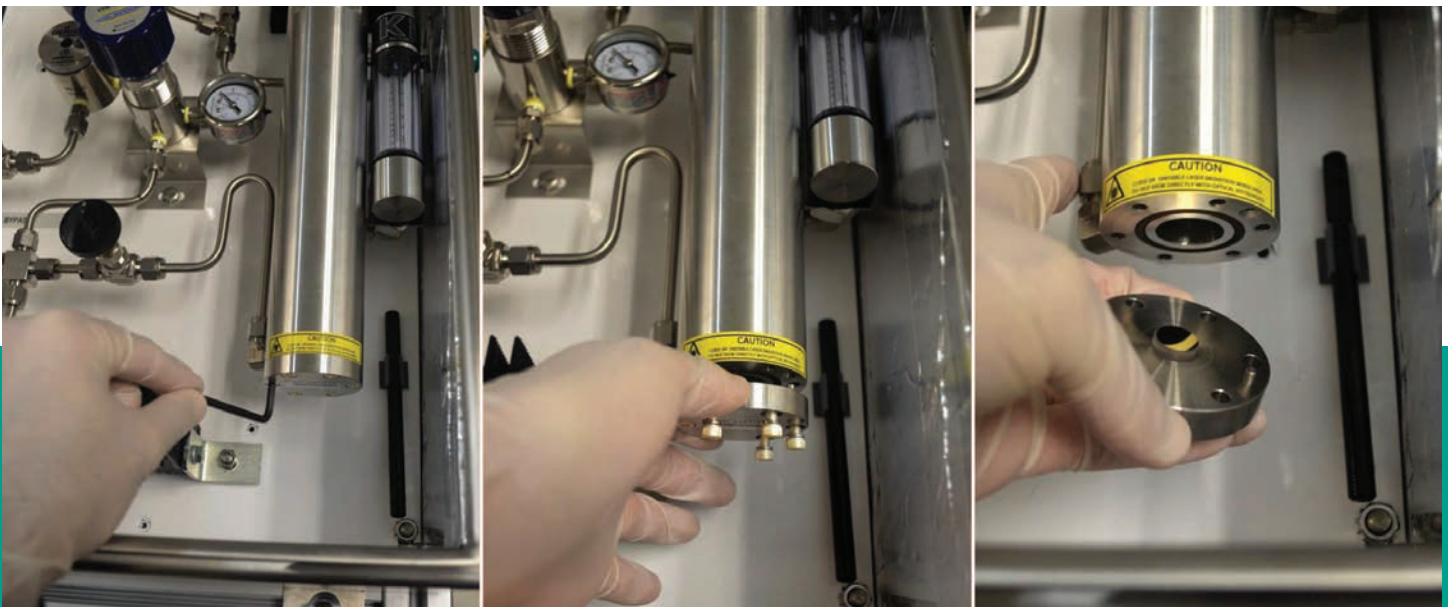

Figure 79: Removing mirror end cap assembly from the absorption cell
1. Remove the 6 hex bolts securing the mirror (see *Figure 79* below) using a 5/32 inch Allen wrench. Hold the stainless steel base of the mirror with one hand while removing the last retaining bolts. The mirror is removed by pulling it straight down. There is one alignment pin (see *Figure 80* below) to facilitate proper removal.